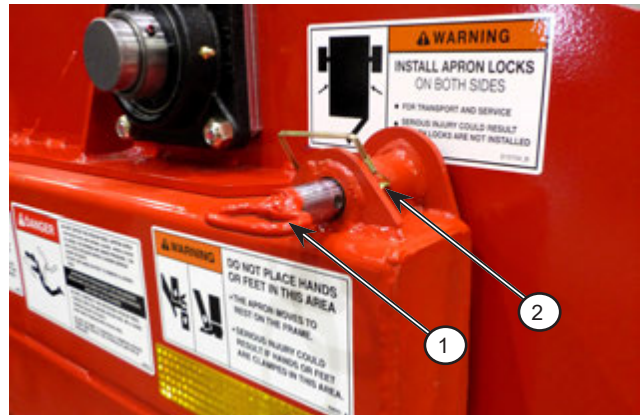

Figure 5.5: Place apron locks in storage position
- c. Re-install the  $\frac{5}{16}$ " locking pins into the 1st hole on the 1" apron pin, as per *Figure 5.5*. This is the storage position.